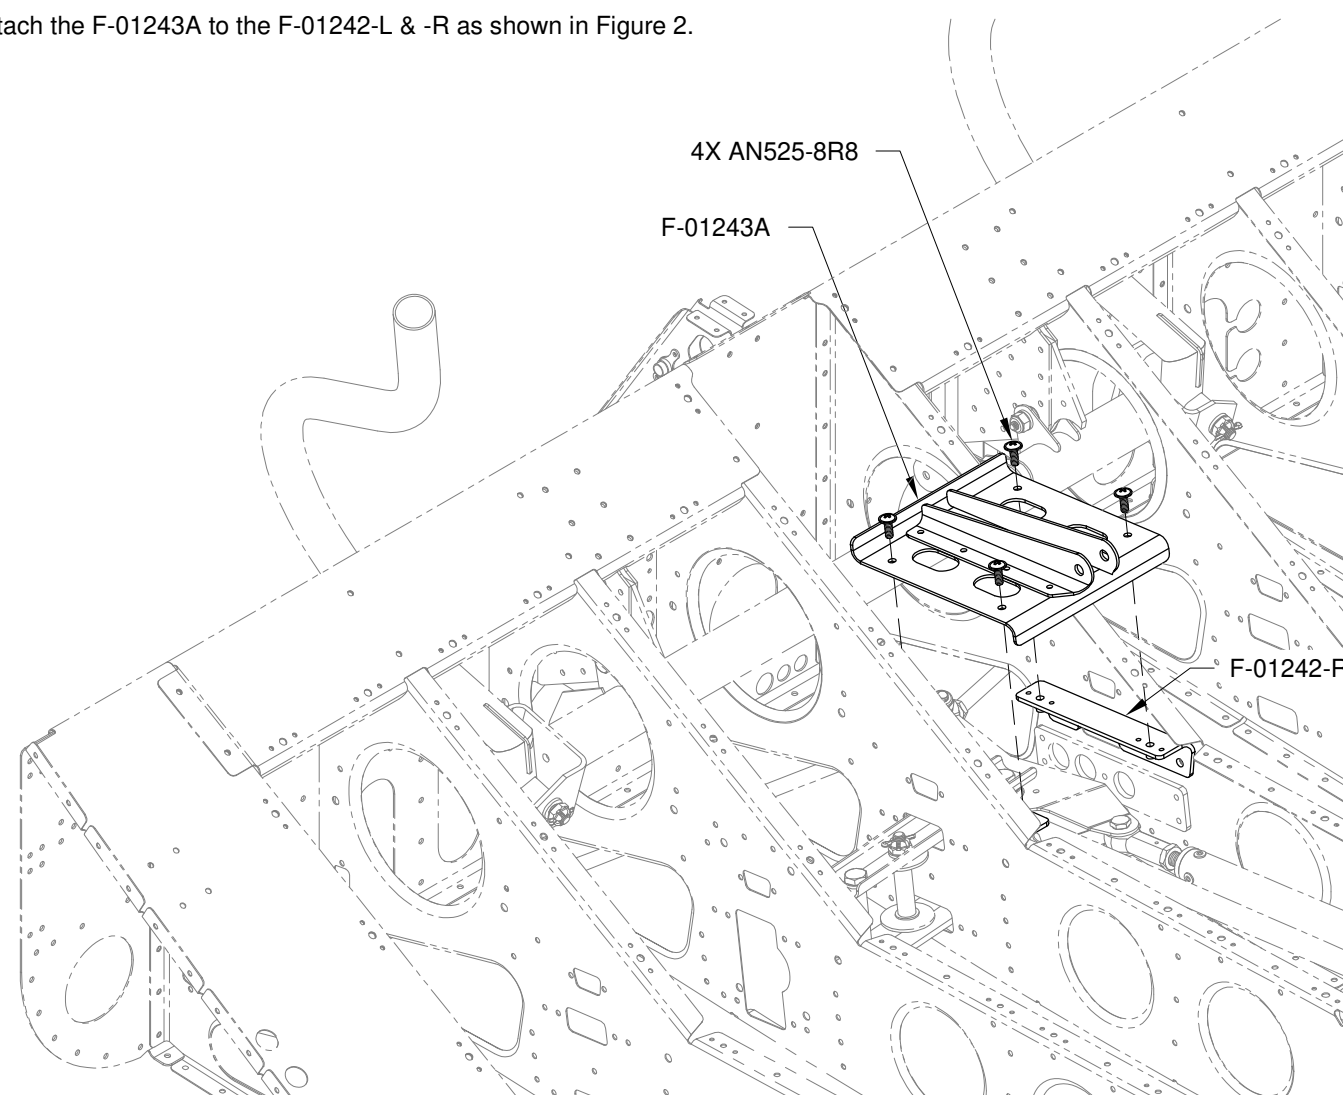

FIGURE 2: ATTACHING THE FLAP MOTOR CHANNEL BRACKET
Step 2: Attach the F-01243A to the F-01242-L & -R as shown in Figure 2.